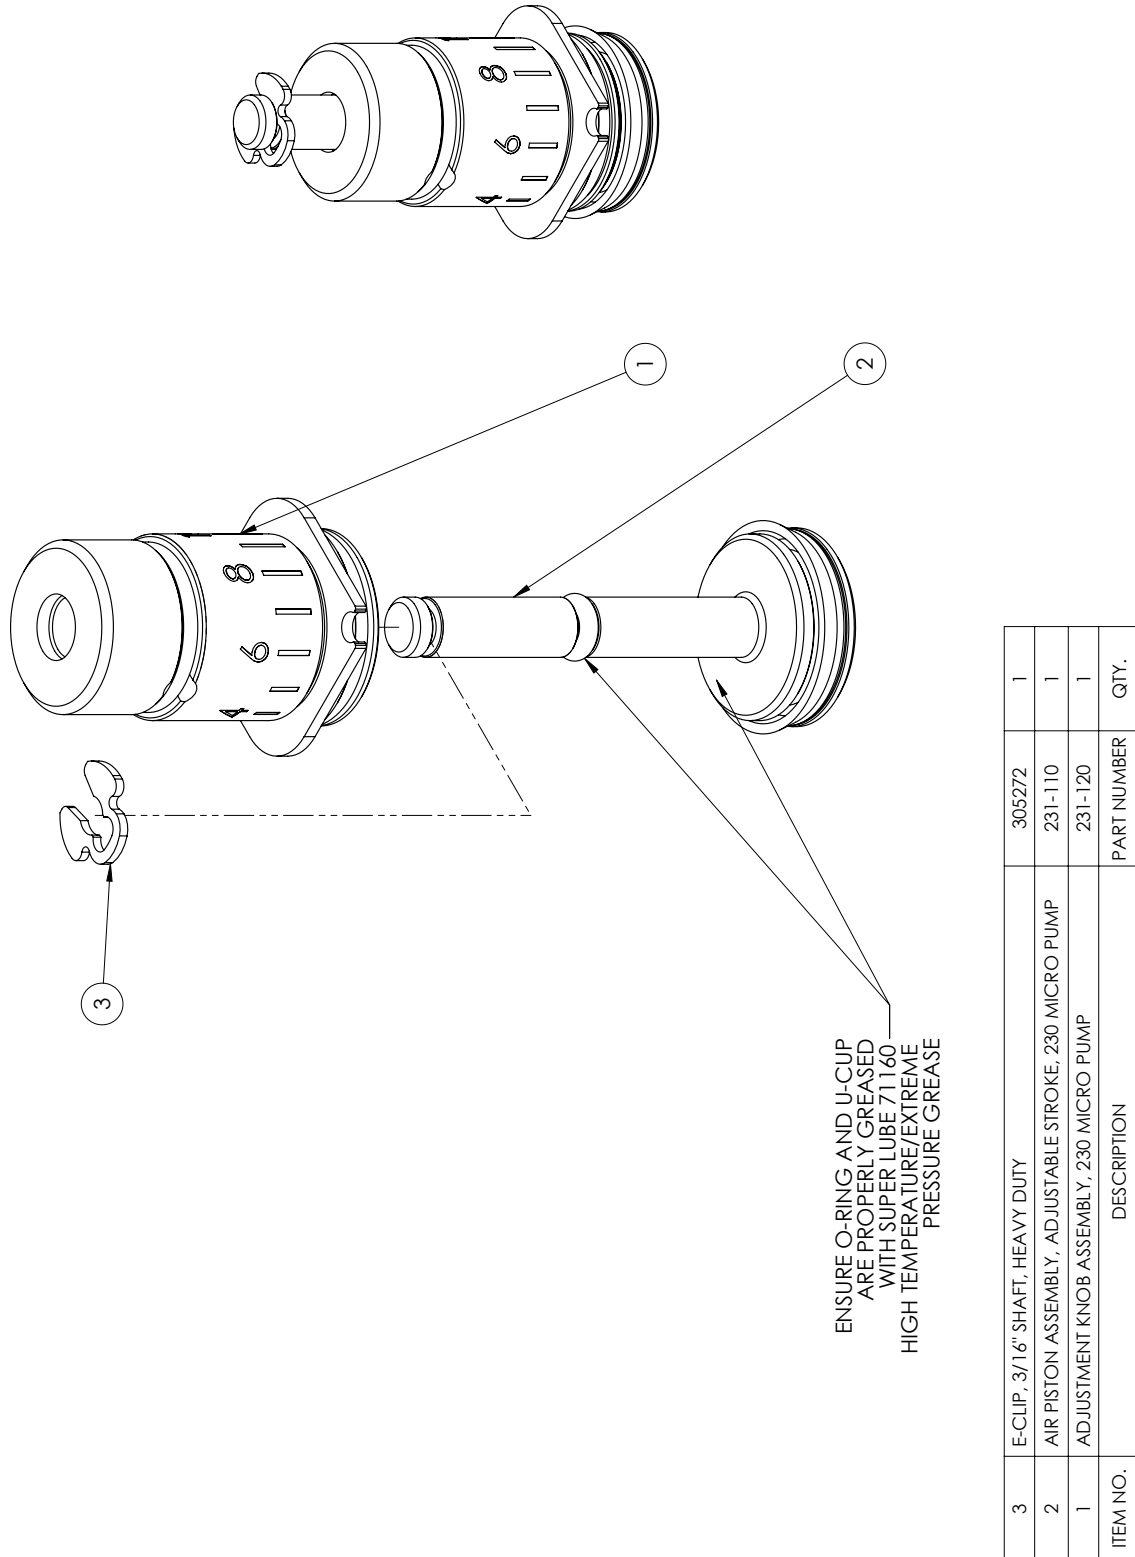

Figure 2: Air Cap Assembly
15. The fluid inlet insert (item 5) is installed into the pump body with the -007 X-ring (item 4) facing the washer and front O-ring, so the sealing surfaces meet when the stack is compressed.
16. Ensure there is an -012 O-ring (item 3) and .156" ID U-cup (item 6) installed on the fluid displacement chamber (item 7) and apply a light coat of grease before installation.
18. Ensure the outlet check valve body is assembled with the flat check seal (item 8) into the brass housing (item 9). Install that housing into the bore with the seal facing toward the inside of the pump.
19. Install the outlet check valve spring (item 10) over the nub on the outlet check valve body (item 9).
20. Lightly grease the -013 O-ring (item 11) and install it on the chamfer of the displacement chamber (item 7) so it will seal against the brass plug (item 12).
21. Thread the brass plug (item 12) back into the pump body but do not fully tighten it.
22. This rebuild also replaces the air piston (Figure 2 - item 2) in the air cap assembly.
23. Remove the E-clip (Figure 2 - item 3) from the top of the adjustment knob (Figure 2 - item 1).
24. Pull the air piston (Figure 2 - item 2) out of the adjustment knob and discard it.
29. Insert the metering pin return spring (item 13) into the air bore.
30. Apply a light coat of grease to the metering pin (item 14) on the smaller-diameter shaft. Insert the metering pin into the metering pin return spring (item 13), then slowly press the metering pin so it engages the inserts below.
31. Set the rebuilt adjustment knob assembly (item 15) back on the pump, aligning the P mark on the adjustment knob with the mark on the pump body.
32. Install the two screws (item 16) and evenly tighten them to 6-in-lbs [.68Nm] pounds using a 3/32" hex key.
34. While holding the air piston in, torque the brass plug (item 12) to 75 in-lbs [8.5 Nm] using a 1/4" hex key.